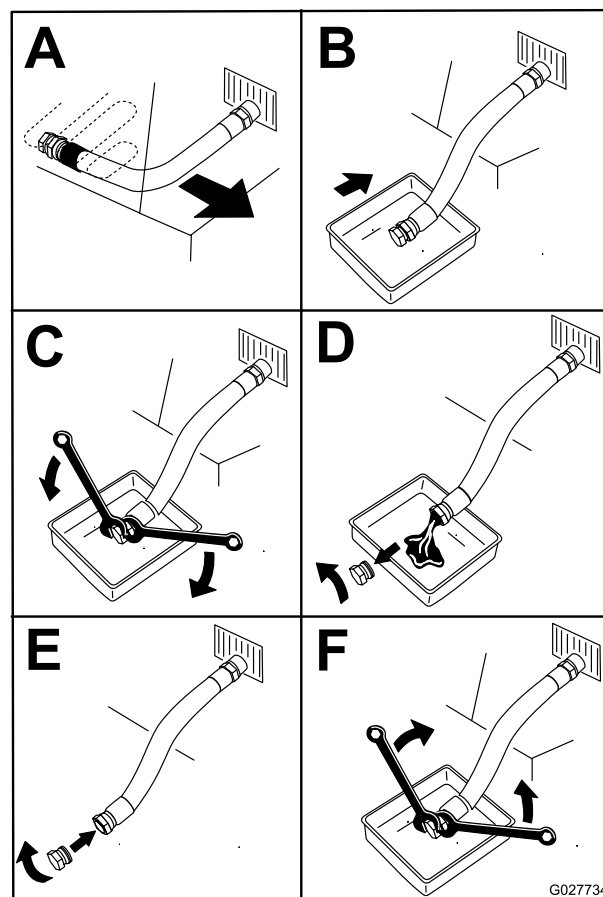

Figure 43
- Drain the oil from the engine (Figure 43).